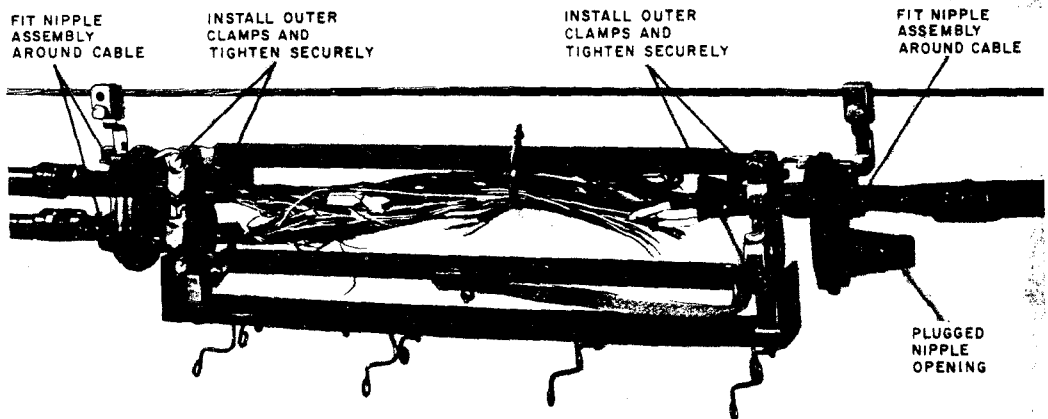

Fig. 7—Completed Installation—Normal Pull-out (Cover Removed)
(8) Fit nipple around cable and bond strap. Install outer sheath clamps (top and bottom) as spacers. Tighten securely (Fig. 7).